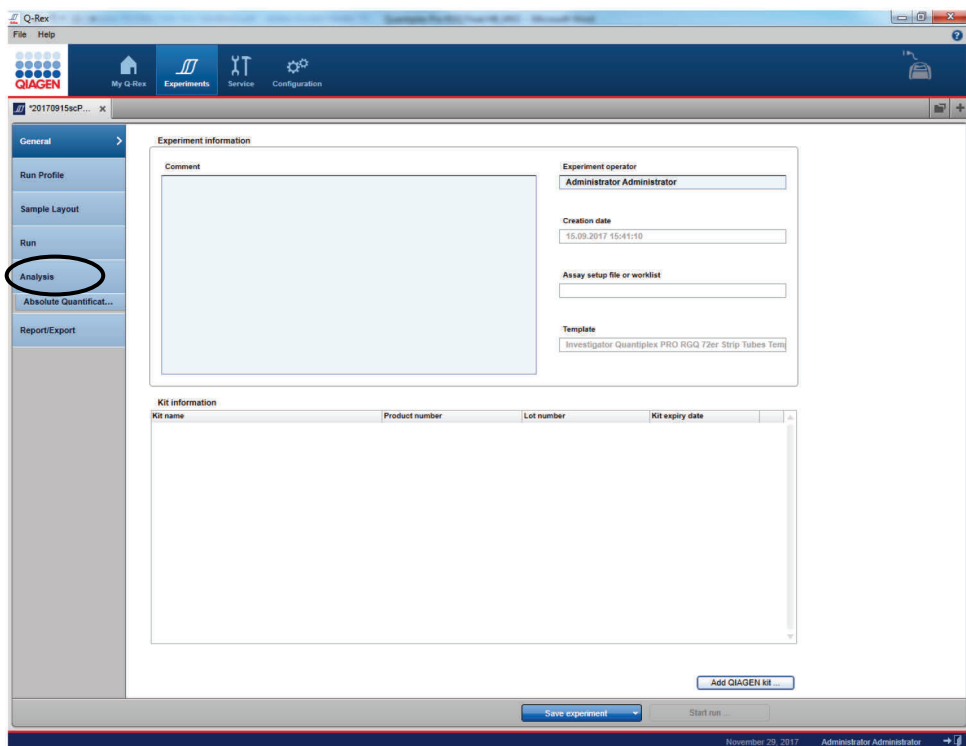

Figure 28. Setting analysis parameters in Q-Rex.
3. Click on the left side in the step marker on "Analysis" (Figure 28).